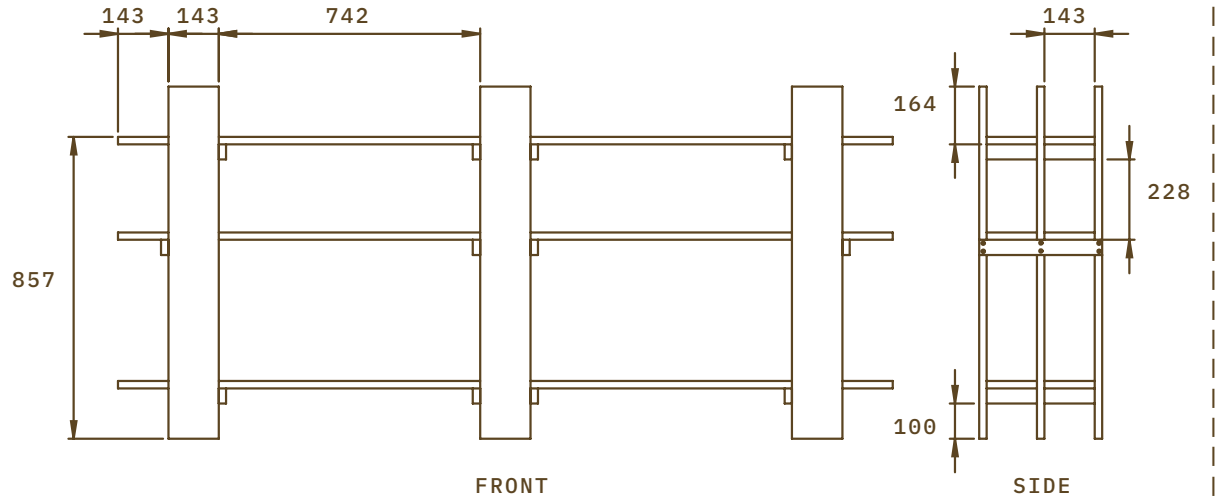

FIG. 2
3. ATTACH SHELF BOARDS (A) TO STRETCHERS [FIG.2].